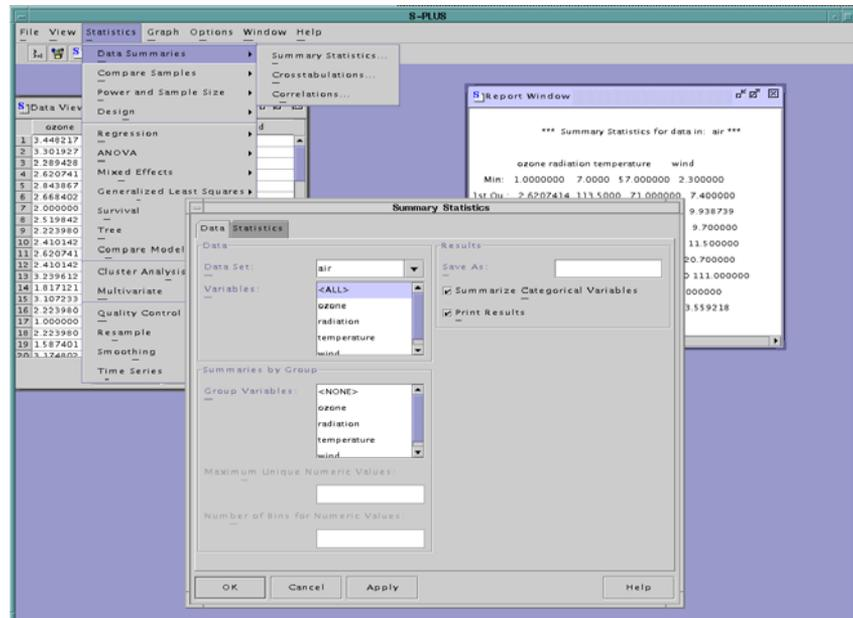

Figure 6.1: Statistics-related menus and windows.
Figure 6.1 displays many elements of the Spotfire S+ interface.
- **Statistics menu:** The **Statistics** menu gives you access to nearly all of the statistical procedures available in Spotfire S+. The procedures are logically grouped, with submenus that allow you to precisely specify the procedure you want to use. For example, in Figure 6.1 the menu tree for summary statistics is shown. It is selected by choosing **Statistics** ► **Data Summaries** ► **Summary Statistics**.
- **Statistics dialogs:** The open dialog in Figure 6.1 is entitled **Summary Statistics**, and is used to specify which data summaries to calculate.
- **Data Viewer:** The open window on the left in Figure 6.1 is a **Data** viewer, which you can use to see a data set in its entirety. The **Data** viewer is not a data editor, however, and you cannot use it to modify or create a new data set.
- **Report Window:** The **Report** window displays the results of statistical analyses. In Figure 6.1, a **Report** window shows the results of the chosen summary statistics. In addition, any error, warning, or informational message generated by a statistics dialog is printed in the **Report** window.